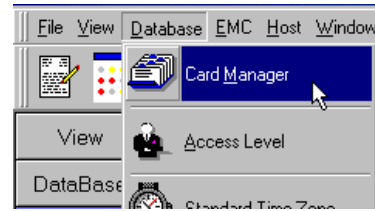

Figure 19: Card Manager Location
- 1 Click Database, Card Manager (see Figure 19). The Card Manager Screen appears.